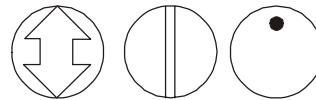

Figure 3: Damper Position Icons
- Make sure that the damper blade is visually accessible or its position is permanently marked on the end of the damper shaft as shown in Figure 3.